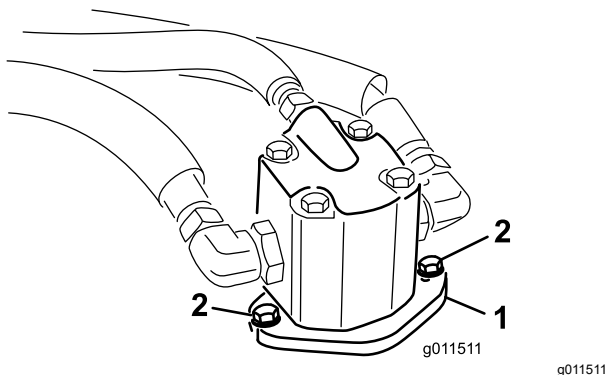

Figure 116
4. Remove the bolts securing the hydraulic motor to the mower deck (Figure 116).